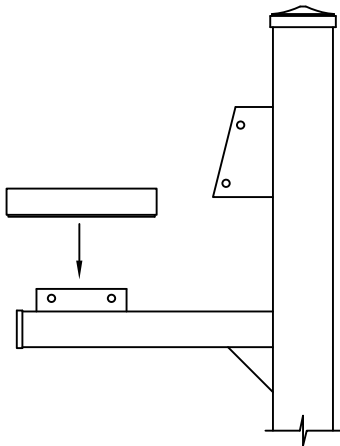
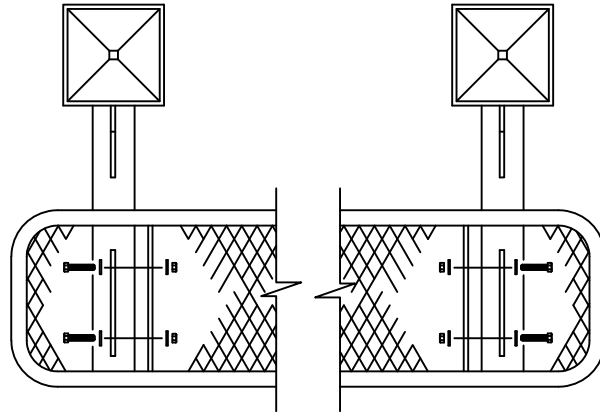

FIG. 4
FIG. 5
Take both 4 x 4 surface mount posts (B2) and allow them to free stand vertically. Attach one or two (A-) seat(s) to each side of the post's seat arms, see FIG. 4. Align the seat's mounting brackets to the inner most part of the mounting brackets on the post's seat arms, see FIG. 5. Use two, per each mounting bracket, (D) and (F) using two (E) and one (H) per (D).